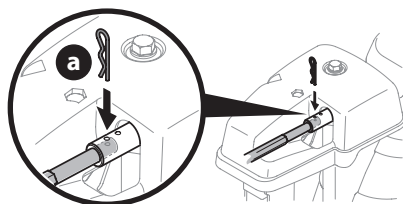

Figure 45
2. Pull out chute control rod until hole in it lines up with second hole in chute control head (Figure 45).